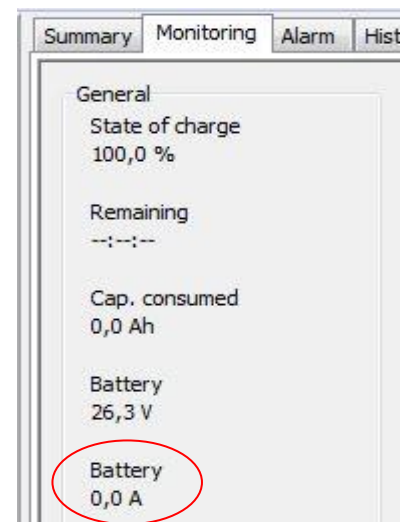

Figure 7-4: Checking zero current
- 6 Verify on the MLi Ultra monitoring page that there is no current flow. See figure 7-4.